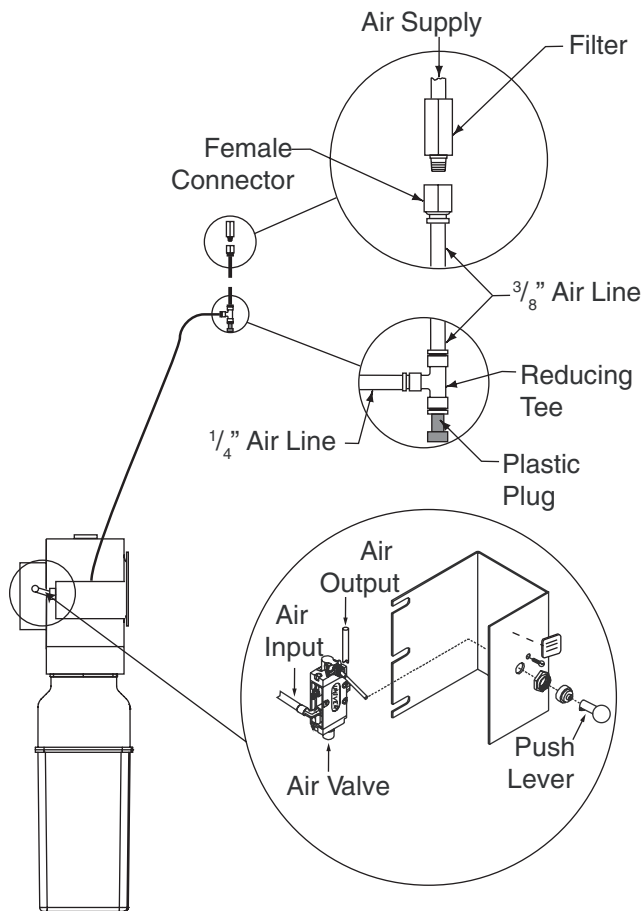

Fig. 24
- A. Connect air valve to Reducing Tee, Fig. 24. Cut provided $\frac{1}{4}$ " air line tubing with sharp blade to length as required. Tubing must be cut square with no burrs.
B. Use Housing Collar to secure the Air Valve to the Air Valve Bracket, Fig. 24.
- E. Connect Reducing Tee to female connector, Fig. 24, using $\frac{3}{8}$ " air line tubing. Attach filter to female connector and connect into existing facility air supply. Make sure plastic plug is in bottom opening of Reducing Tee.
- H. Actuate air valve and check latch operation on all four (4) corners. When releasing locks, the locking latch should pull back flush with yoke end to clear the latch bar located in all four (4) columns, Fig. 24. Adjust, if required, by removing cotter pin and washer holding Slotted Bracket on locking latch and screwing Slotted Bracket in to move it toward the air cylinder. After adjustment, replace washer and secure Slotted Bracket with a NEW cotter pin. Tighten jam nut. Apply Loctite® to jam nut to hold in place.